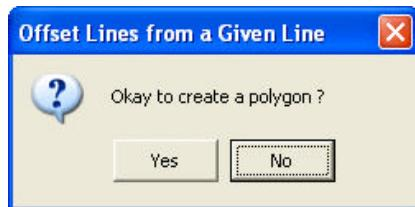

Figure 9
- ◆ Note, if a **zero offset** value is specified and the polyline forms a **closed figure**, that is, the start and end points of the polyline are identical, the tool will pose the query shown in Figure 9.